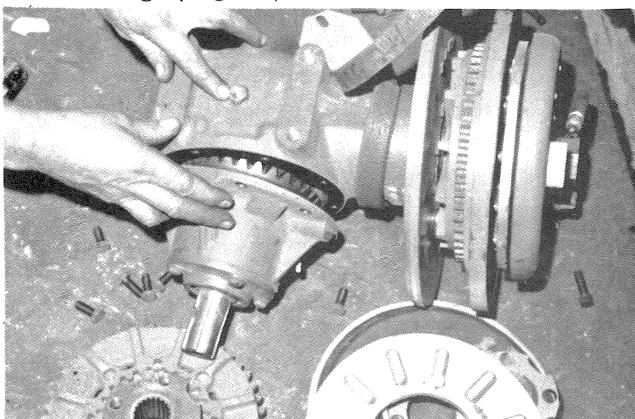

Figure 17. Ring Gear Housing Removal
- (16) Mark the gear box side housing and main housing, so that the side housing (ring gear housing) may be reinstalled in the same position. Remove the eight capscrews securing the side housing to the main housing, and remove ring gear housing. (Fig. 17).